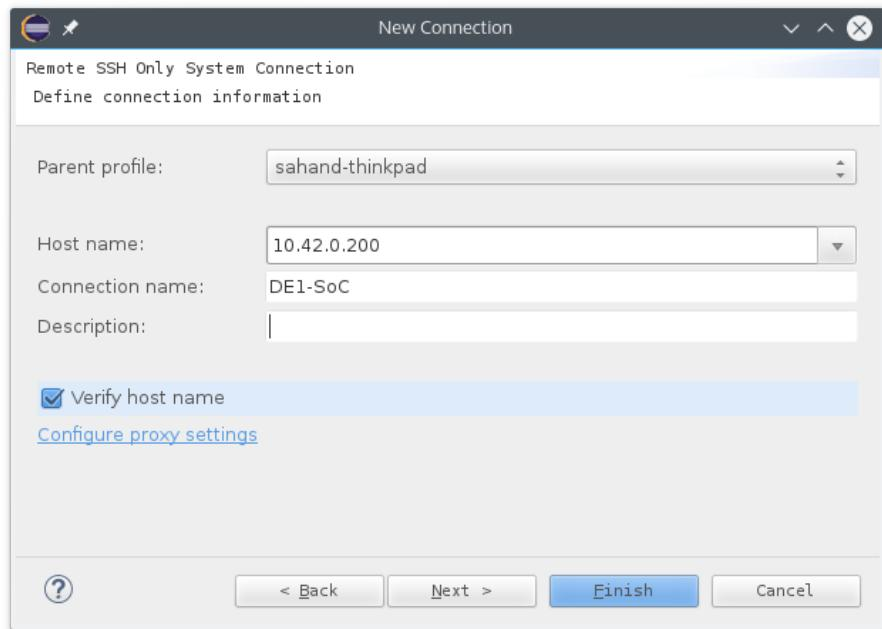

Figure 13-12. New SSH Only Connection
74. Enter “DE1-SoC” as the “Connection name”. You should have something similar to Figure 13-12.